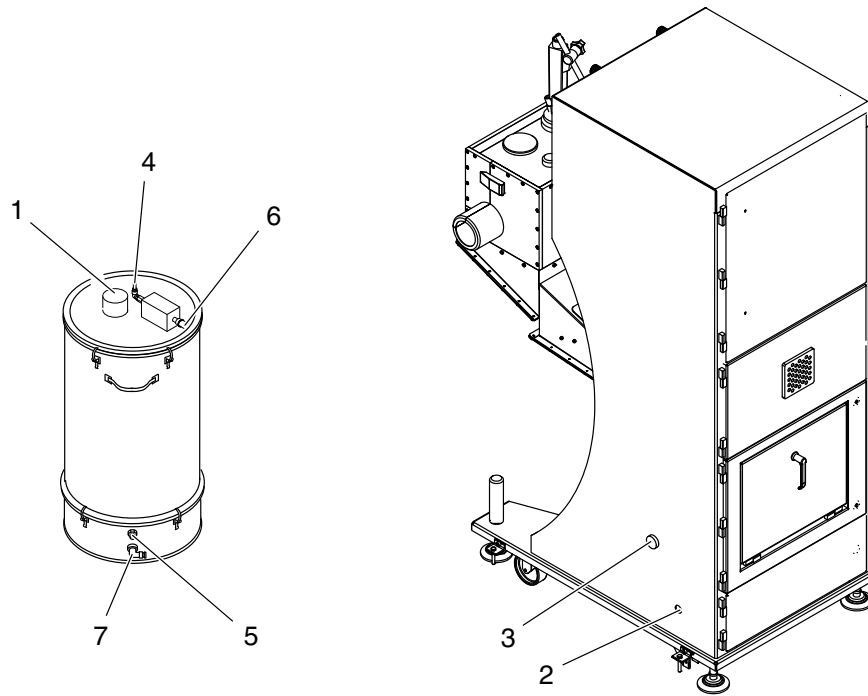
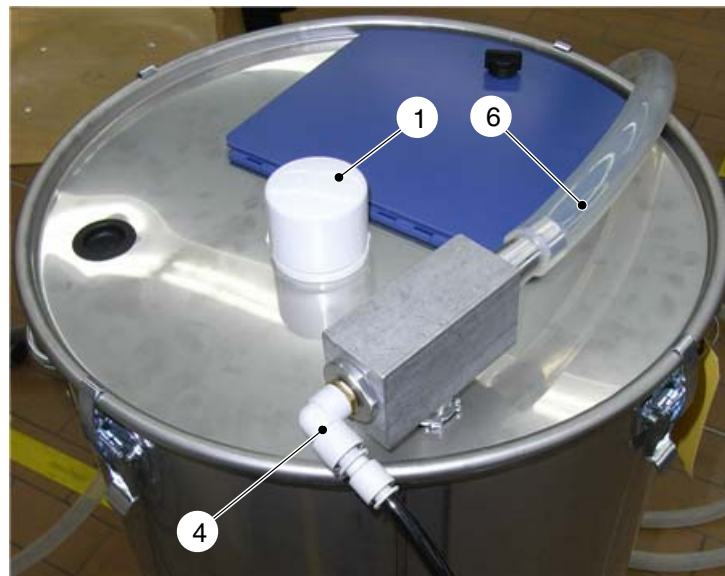
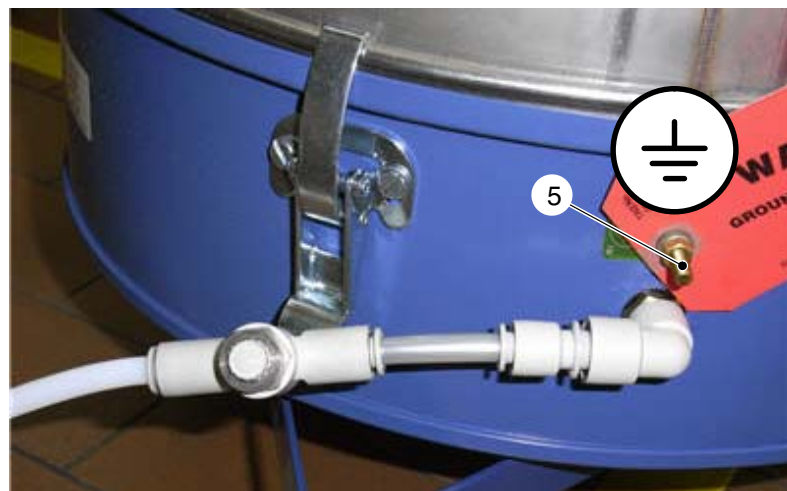

Fig. 3-19
Fig. 3-20
Fig. 3-22
1. Put the cap (1, Fig. 3-19 and Fig. 3-20) on the refill hopper.
3. Replace the blind fitting *Hopper* (2, Fig. 3-19) with the bulkhead gland found in the bag included with delivery of the system. Screw the bulkhead gland onto the system wall.
Connect the system's air hose (6x4, blue) and the powder transfer pump (4, Fig. 3-19) air hose.
4. Remove the blind fitting (3, Fig. 3-19). The nut will be needed later.
5. Ground the refill hopper. Ground connection (5, Fig. 3-19 and Fig. 3-22).